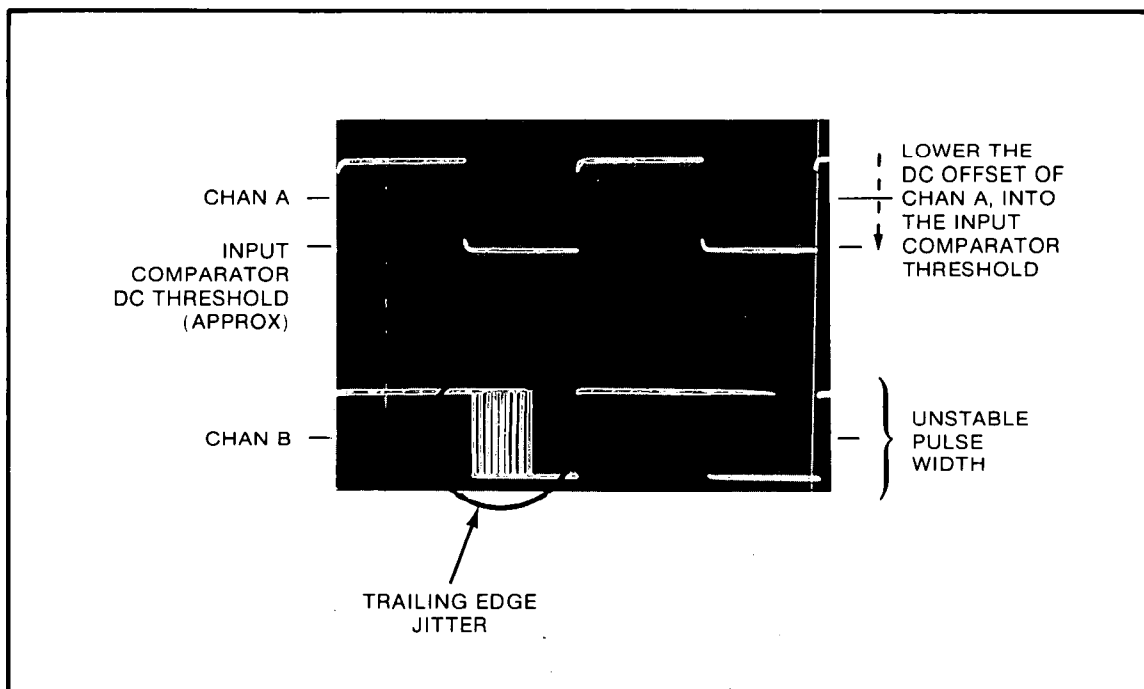

Figure 5-3. Under-Compensated
- Begin with the Pulse Generator OFFSET VERNIER set to the fully positive offset position. Using the OFFSET VERNIER, slowly lower the dc offset of the input signal until the comparator output on the oscilloscope Channel B "just" begins to trigger. This is indicated by a likeness of the input square wave on the oscilloscope Channel A, appearing on Channel B. The Channel A POSN control should be readjusted as necessary, to return the input waveform to the oscilloscope display. Readjust the OFFSET VERNIER slightly positive until the comparator output, on Channel B, intermittently triggers, displaying trailing edge jitter as shown in Figure 5-3.